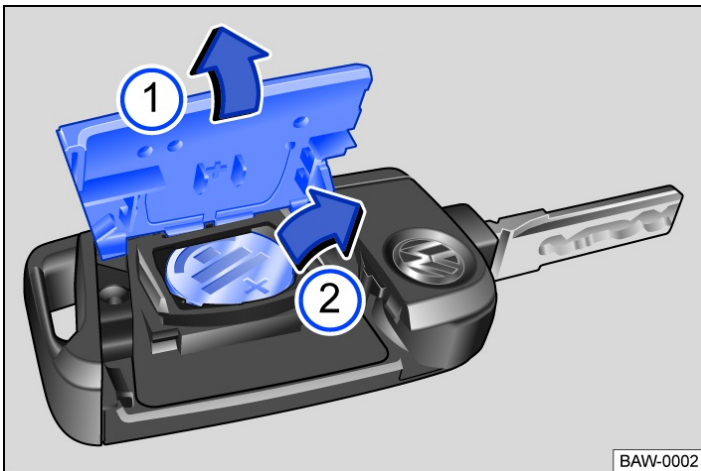

Fig. 1 Vehicle key: replacing the button cell.
- Lever off the cover → Fig. 1 ① → ⚠.
- Lever the button cell out of the battery compartment → Fig. 1 ②.
- Press the cover onto the housing → Fig. 1 ①.